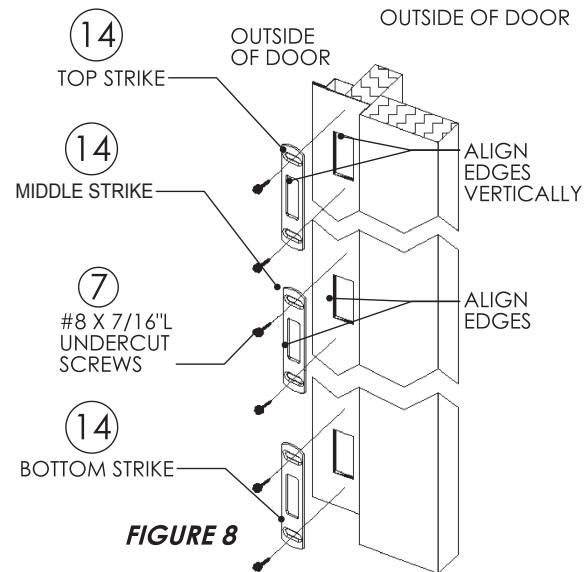

FIGURE 8
4. **Note : top and bottom hooks must have clearance on all four sides.** Position the strike plate slots vertically on the Z bar and align them with the pencil marks previously made on the Z bar. (See figure 8).
5. Position the strike horizontally by aligning the outside edge of the slot in the strike plates with the outside edge of the slots in the z-bar. Mark the hole locations in the center of the two adjustable slots of each strike plate. (See figure 8)
6. Remove the strike plates and drill the marked holes with a 3/32" drill bit. Reposition the strike and insert the #8 x 7/16 Phillips flat head screws (5) into the mounting holes and tighten. Close the door and check the operation of the lock. Lift the lever upwards to throw the hooks and then turn the cylinder to lock the door.